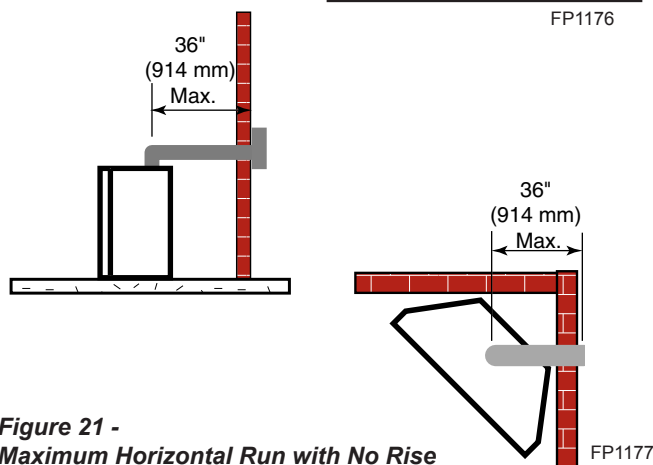

Figure 21 -
- If a 90° elbow is fitted directly on top of the fireplace flange the maximum horizontal vent run before the termination or a vertical rise is 36" (914 mm). *Figure 21*